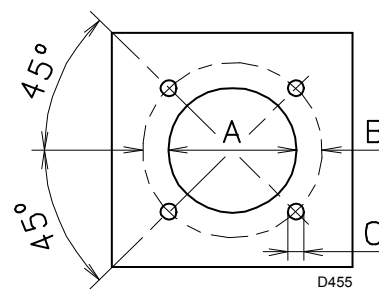

Fig. 12
Drill the combustion chamber locking plate as shown in Fig. 12 (). The position of the threaded holes can be marked using the thermal screen supplied with the burner.
- Fit the entire burner onto the boiler hole prepared previously (Fig. 12), and fasten with the screws supplied.